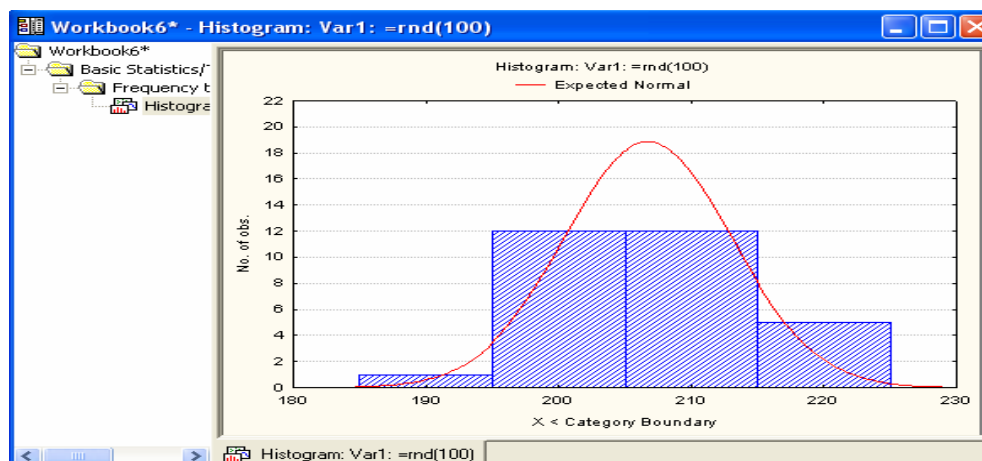

Figure 2.7 Histogram
8. Histogram (see Figure 2.7).